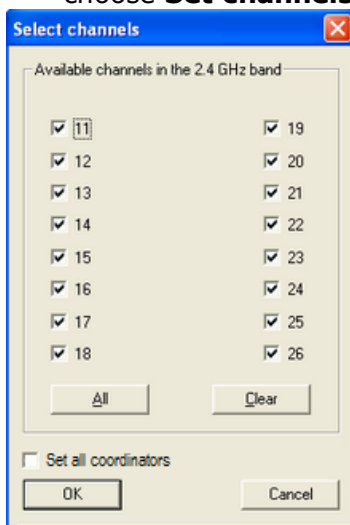

Figure 56
1. Right click on the concerned GW in SysMon's **Online Network** view and choose **Set channels**; a dialog as in Figure 56 will be shown.